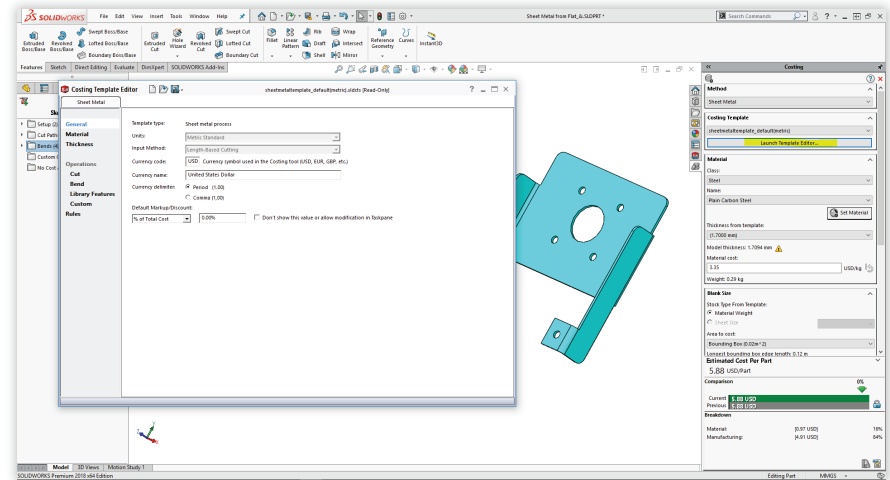

Fig. 3
4. To create a custom template, select the **Launch Template Editor** to launch the **Costing Template Editor** window. See Fig. 3. Within the **Costing Template Editor**, you customize things like currency, materials, thicknesses, and operation pricing.
Note: In Fig. 3, notice that the sheet metal and machining cost templates are already generated. However, you can also create new, fully customized templates for other manufacturing methods (e.g., injection molding, casting, 3D printing, and welding).